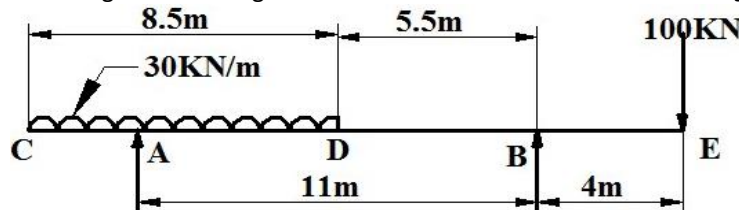

Figure 24
14. Draw shear force and bending moment diagram for the beam loaded as shown in the *Figure 24*.